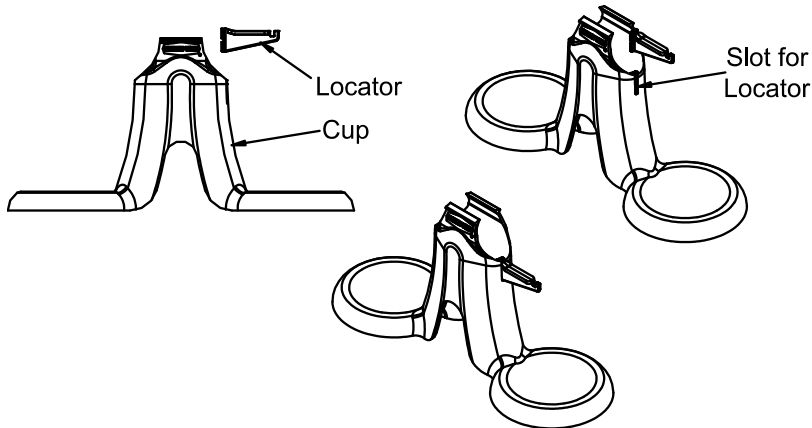

Figure 21. Advanti-Flow Cup Installation
1. Install the locator to the cup as shown, (See Figure 21).